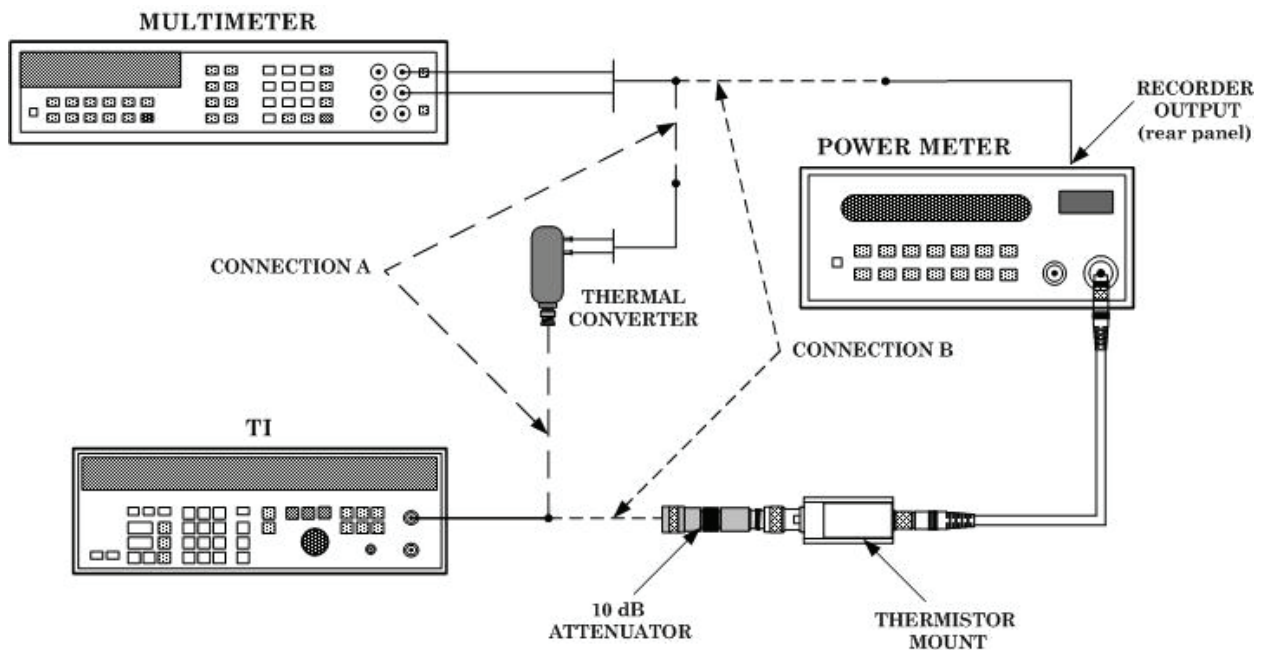

Figure 4. Flatness.
(1) Connect equipment as shown in figure 4, CONNECTION A.
- (2) Set **FREQUENCY** to 100 kHz and **AMPLITUDE** to +13.01 dBm.
- (3) Record multimeter reading.
- (4) Set **AMPLITUDE** to +12.91 dBm.
- (5) Record multimeter reading.
- (6) Calculate the allowable tolerance by subtracting reading in (5) above from reading in (3) above.
- (7) Record tolerance.
- (8) Reset **AMPLITUDE** to +13.01 dBm.
- (9) Set TI to the following frequencies, allow multimeter reading to settle and record the reading: 200 Hz, 50 kHz, 500 kHz, 1 MHz, 5 MHz, and 10 MHz (see **NOTE** above).
- (10) The result for each frequency must indicate the reading of (3) above \pm the tolerance established in (7) above.
- (11) Disconnect CONNECTION A (fig. 4) equipment and reconnect as shown in CONNECTION B (fig. 4).
- (12) Press TI **FREQUENCY** to 10 MHz and **AMPLITUDE** to +13.01 dBm.
- (13) Adjust power meter **CAL FACTOR** control set for power sensor.
- (14) Record multimeter reading.
- (15) Set **AMPLITUDE** to +12.86 dBm.
- (16) Record multimeter reading.
- (17) Calculate the allowable tolerance by subtracting reading in (16) above from the reading in (14) above.
- (18) Record tolerance.
- (19) Reset **AMPLITUDE** to +13.01 dBm.
- (20) Set the TI to the following frequencies and record the multimeter readings: 20, 30, 40, 50, 60, 70, and 80 MHz.
- (21) The result for each frequency must indicate the reading of (14) above \pm the tolerance established in (18) above.